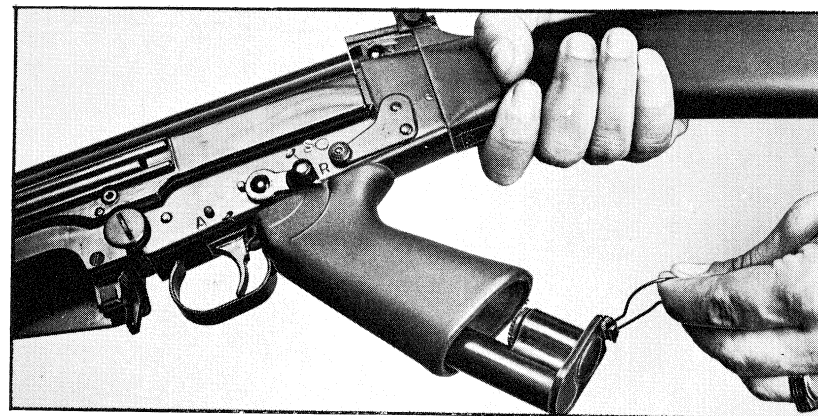

Fig.102
e) **Pistol grip.** — Remove from the pistol grip the cleaning materials after loosening its holding spring (fig. 102).